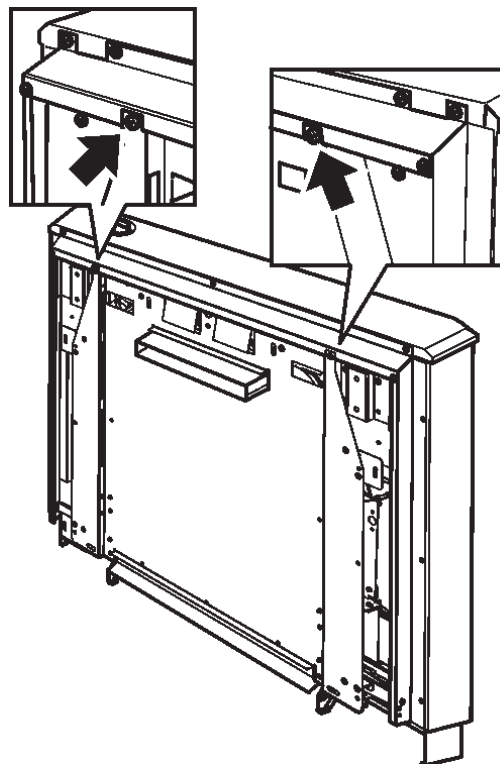

Figure 5. Transit screws.
2. Remove the two transit screws from near the top of the back panel wings (See figure 5).